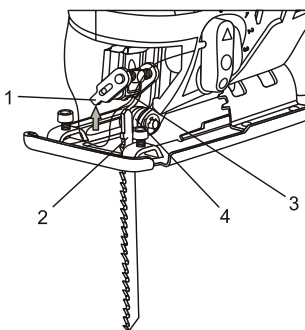

Fig. 1
1. To install a blade in the jigsaw, push upward on the blade locking lever (1) (Fig. 1).
2. Insert the appropriate blade (2) into the blade slot (3) as far as it will go. **NOTE:** Make sure the rear edge of the blade is nested in the blade guide roller (4).